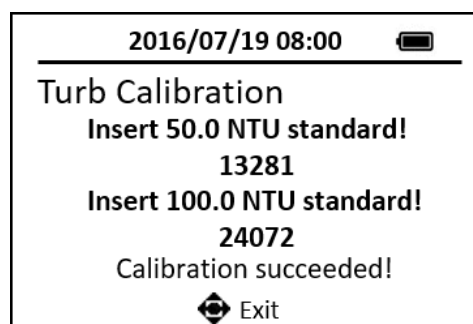

Figure 21. High Range Turbidity Calibration
11. Press the **OK** key to measure the selected standard. High range turbidity calibration is successful. (Figure 21)